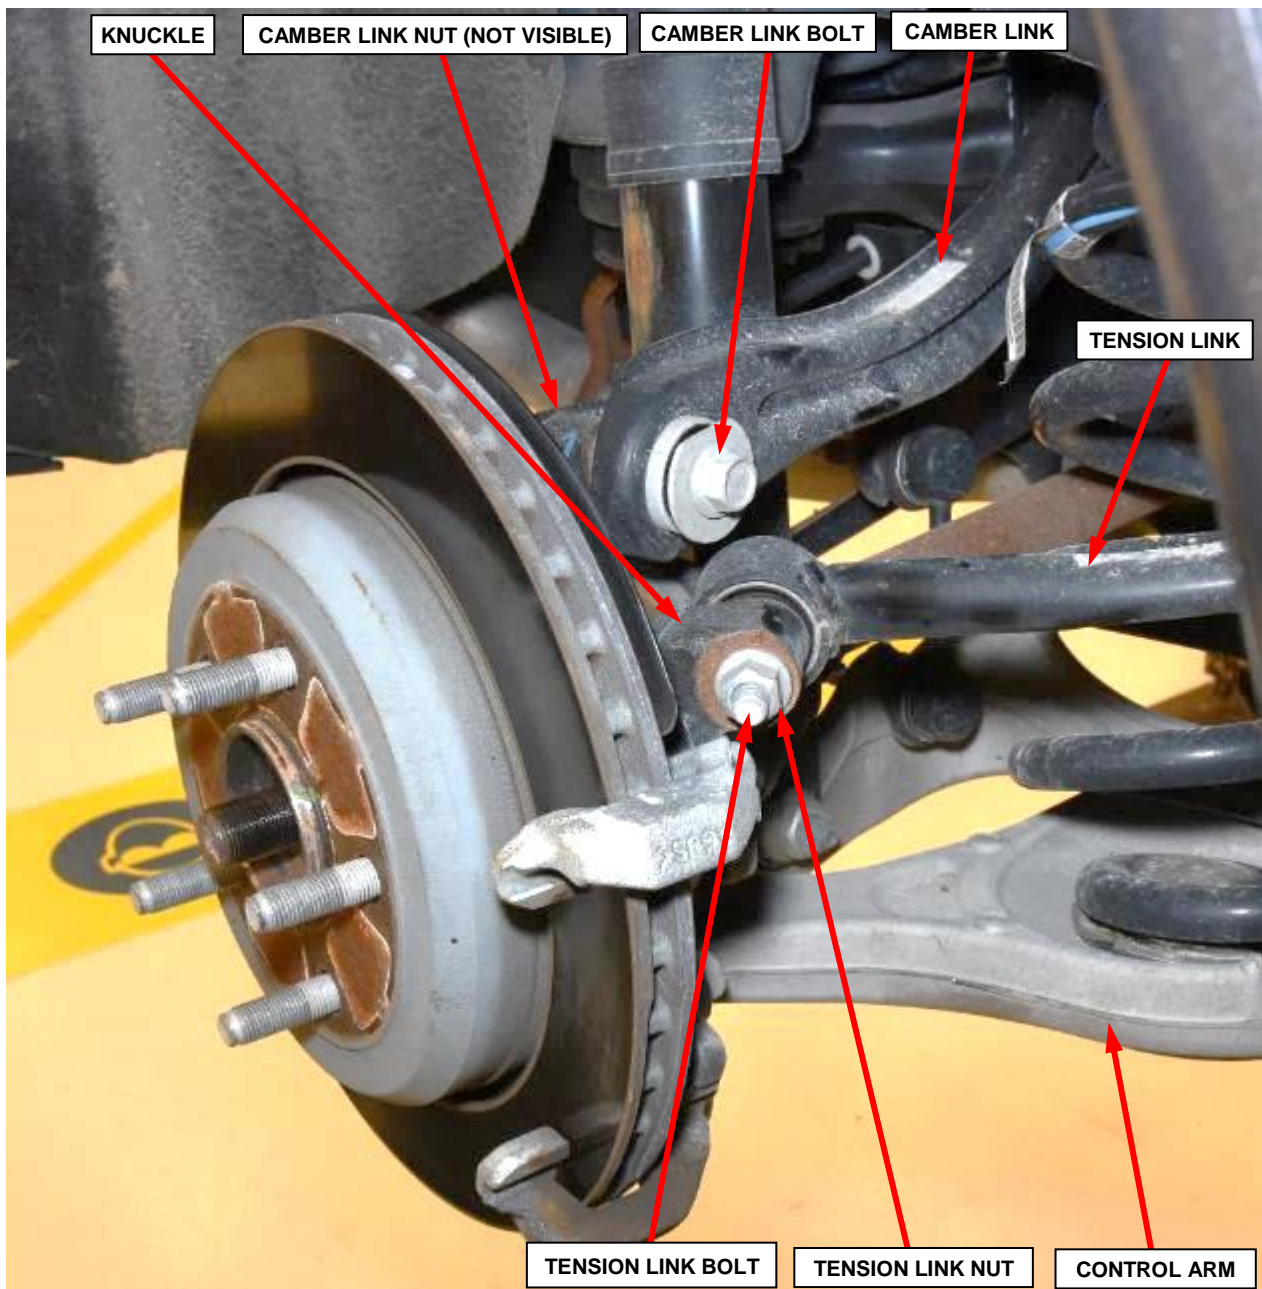

Figure 16 – Right Side Rear Suspension Components
25. Remove the tension link nut and bolt (Figure 16).
26. Remove the camber link nut and bolt (Figure 16).
22. Install the camber link bolt and nut then tighten to 110 N·m (81 ft. lbs.) (Figure 16).
23. Install the tension link bolt and nut then tighten to 108 N·m (79 ft. lbs.) (Figure 16).